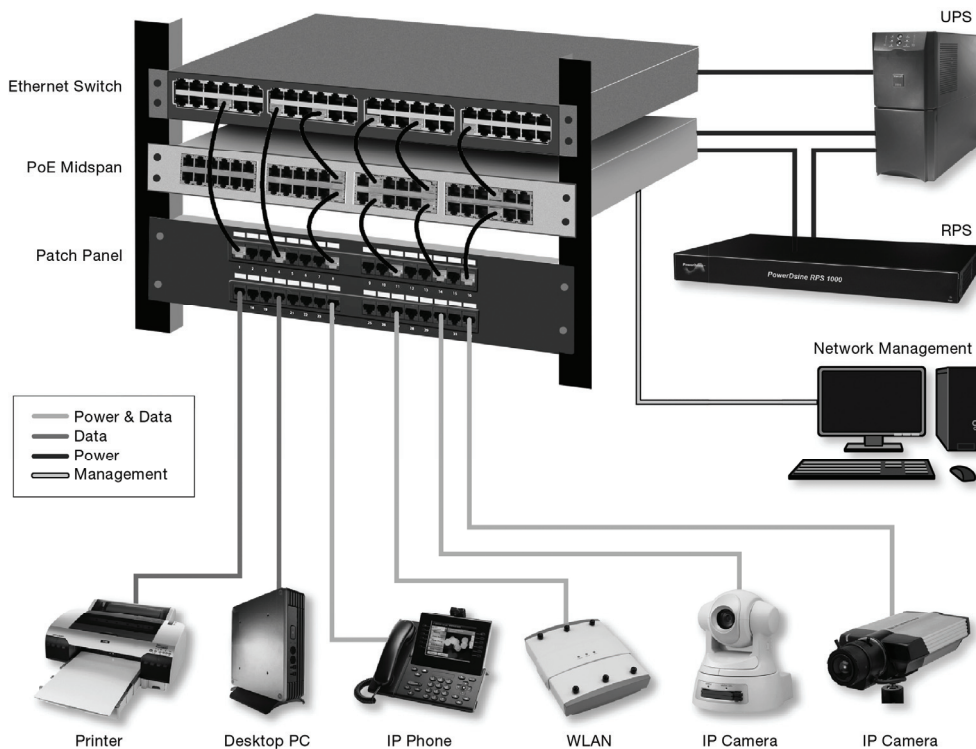

Figure 1: Architecture of Power-over-Ethernet in a campus network
- **Midspan:** A standalone, plug and play device, residing between an ordinary Ethernet switch and the end terminals, often referred to as a Power injector or midspan. Power is supplied through a layer 1 pass-through (Figure 1).
The Ethernet lines run from the network switch, sometimes through a patch panel, out of the communication room and connect to the VoIP phones and other IP devices (see Figure 1). Adding PoE enables devices to be powered over the same Cat 5 cabling infrastructure, providing the most cost-effective solution.